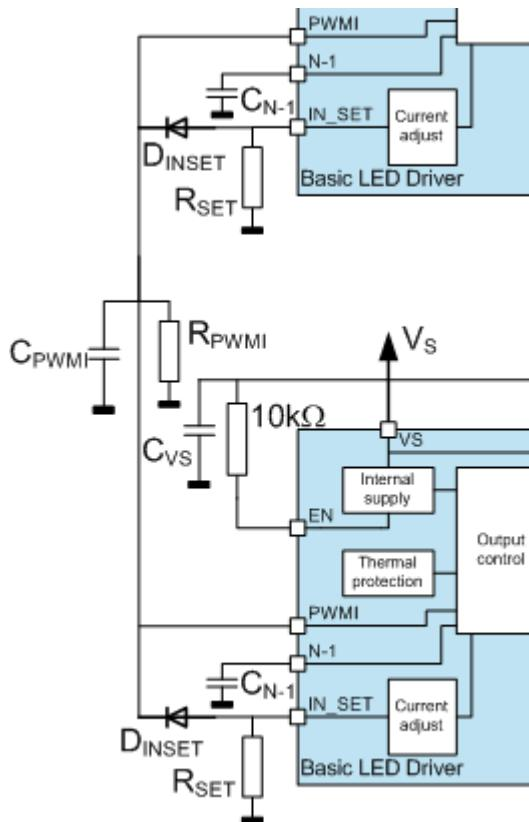

**Figure 36 N-1 detection Application Example Circuit (using IN\_SET and PWM1 pins)**
- The IN\_SET pin is diode OR connected with other LITIX™ Basic LED devices to the PWMI inputs of all devices as shown in Figure 36. When a fault occurs, the IN\_SET pin goes high and also forces the PWMI of both devices HIGH and turns the outputs off.